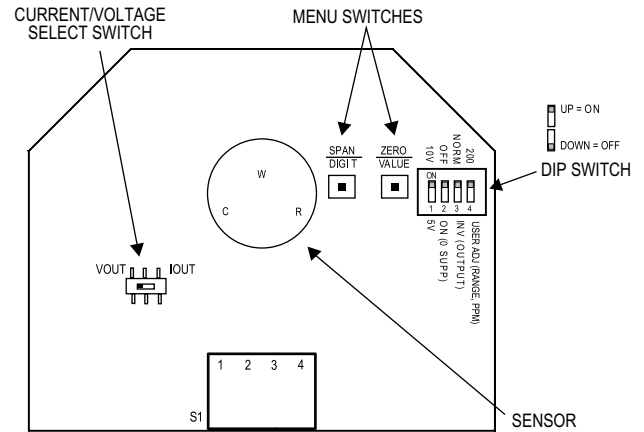

Figure 3
8. Set DIP SWITCH and IOUT/VOOUT SWITCH as desired. Refer to Figure 3.
To access the current/voltage select switch, remove the cover of the unit. The current/voltage select switch is located on the circuit board as shown in Figure 3. Set the switch to "IOUT" for current, "VOUT" for voltage.
To access the DIP SWITCH, remove the cover of the unit. The DIP SWITCH is located on the circuit board as shown in Figure 3.
1. Remove the cover plugs from the face of the unit and top cover. Locate the sensor, see Figure 3 – the sensor is mounted on three pin sockets. The circuit board is labeled either "CO SENSOR" or "NO₂ SENSOR" underneath the sensor.